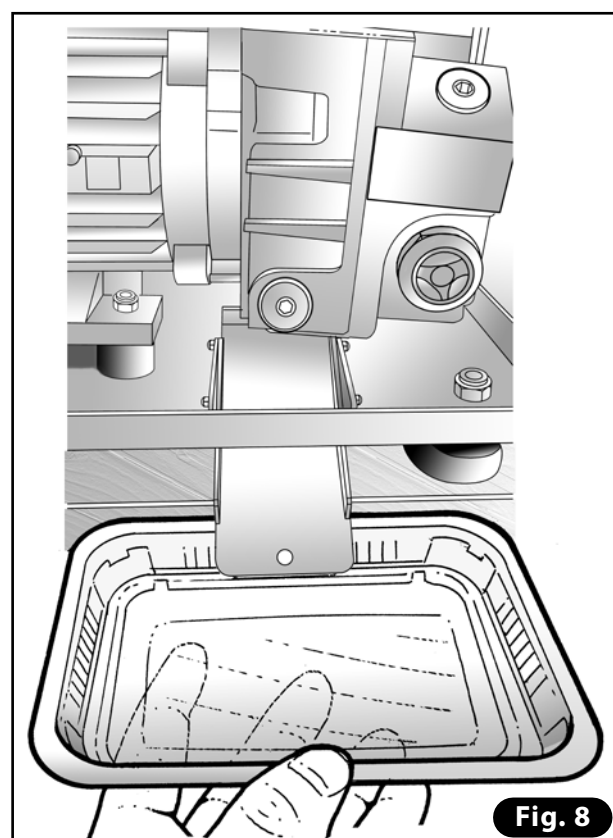

Fig. 8
- 12) Use the same wrench to undo the drain cap **(B)**. Be careful because, as soon as the cap is removed, the oil will flow out of the pump and directly down the slide into a container. Leave the oil to flow out for about ten minutes **(Fig. 8)**.